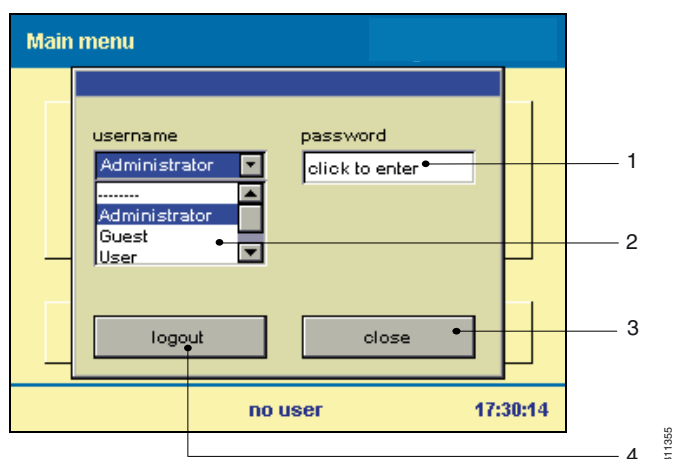

Fig. 6 Login/Logout
Touch the Login/logout button  on the start screen to view a dialogue for user login/logout (Fig. 6). You can also go to the same login/logout dialogue by touching the name **no user** of the user who is not yet logged in, or the name of the logged-in user, e.g. **Administrator**, in the status bar.
1. To log in, first select the user name from the list box and touch the password box (Fig. 6).